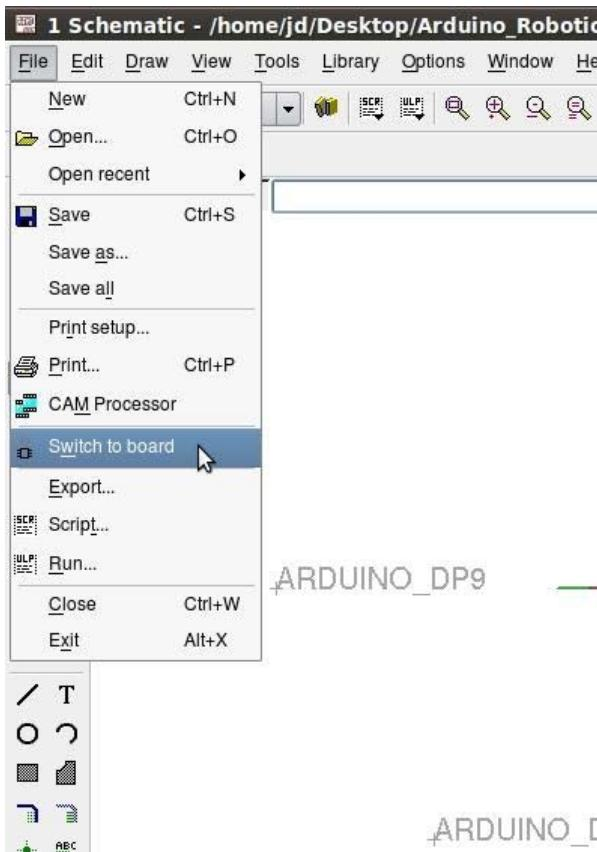

Figure 6-7. Select the File menu from the schematic editor and choose the Switch to board option.
1. *Switch to the board editor:* When your schematic file is ready, select File Switch to Board from the schematic editor menu (see Figure 6-7). When selecting this option, Eagle warns you that no board file exists for the schematic you are working on, and it asks you whether you want to create